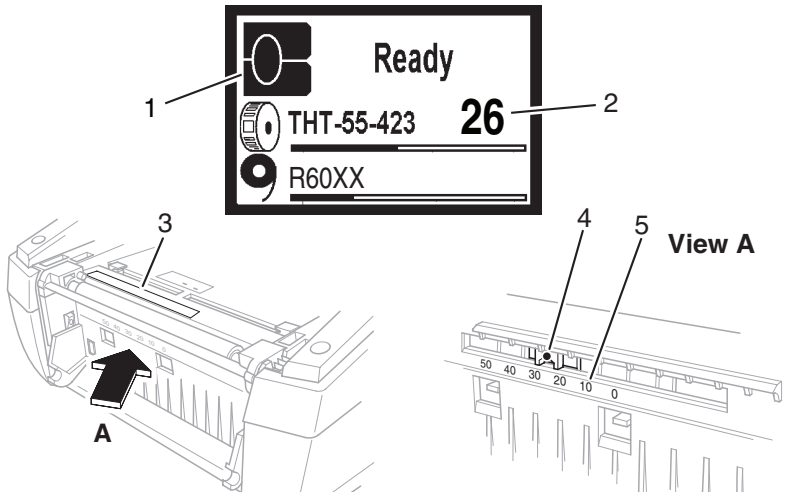

Figure 14, Adjusting the Reflective Sensor
The reflective sensor is used to detect notched material as well as to detect black marks on the back of label stock. There is a clear label covering the reflective sensor. (When operating in Brady mode, the LCD display will show sensor placement information (**Figure 14, 2**).)
1. The LCD will indicate Brady mode (**Figure 14, 1**) and show sensor placement information (**Figure 14, 2**).
3. Adjust the sensor knob (**Figure 14, 4**) with a pointed tool to the position displayed on the LCD (**Figure 14, 2**).
2. Adjust the sensor knob (**Figure 14, 4**) with a pointed tool until the sensor inside the sensor window (**Figure 14, 3**) is aligned with the edge of the labels. If the label material is notched, the sensor must be aligned with the notch.